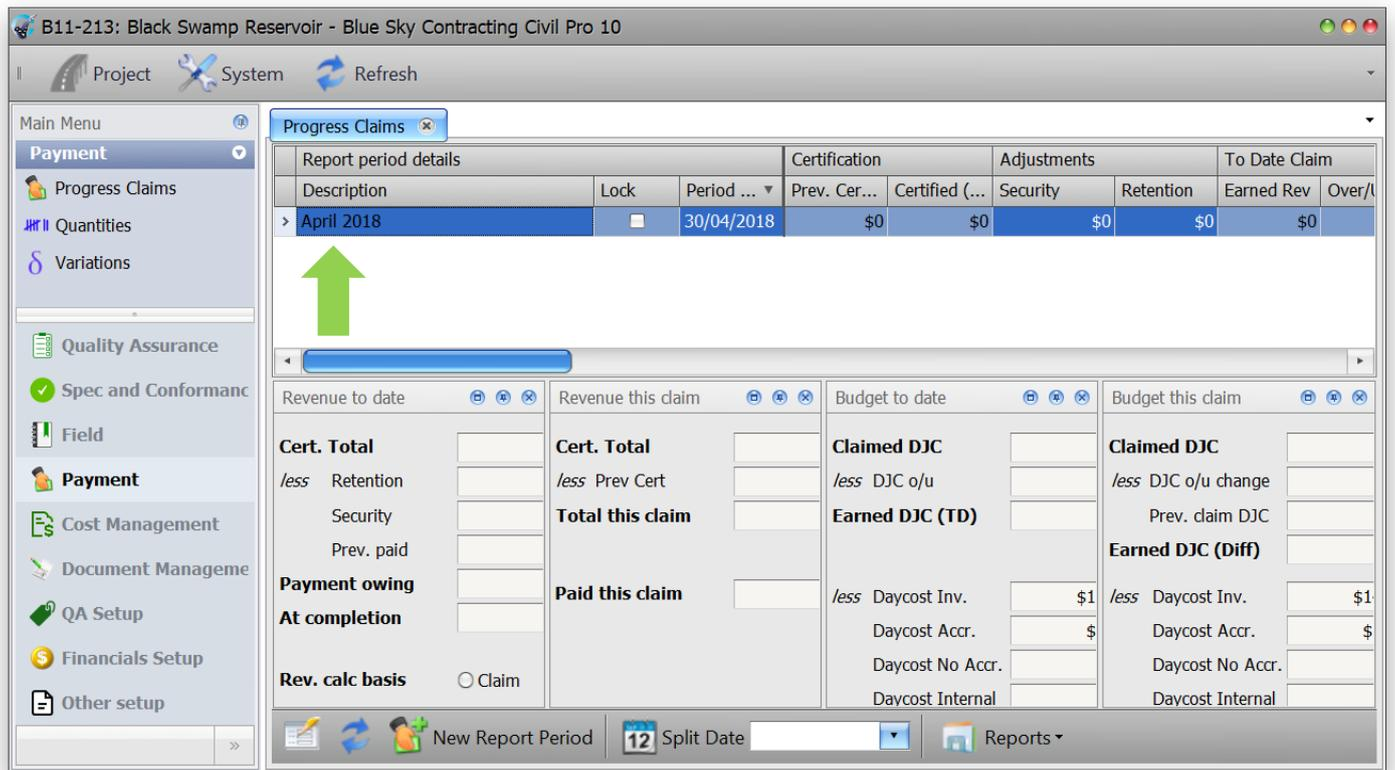
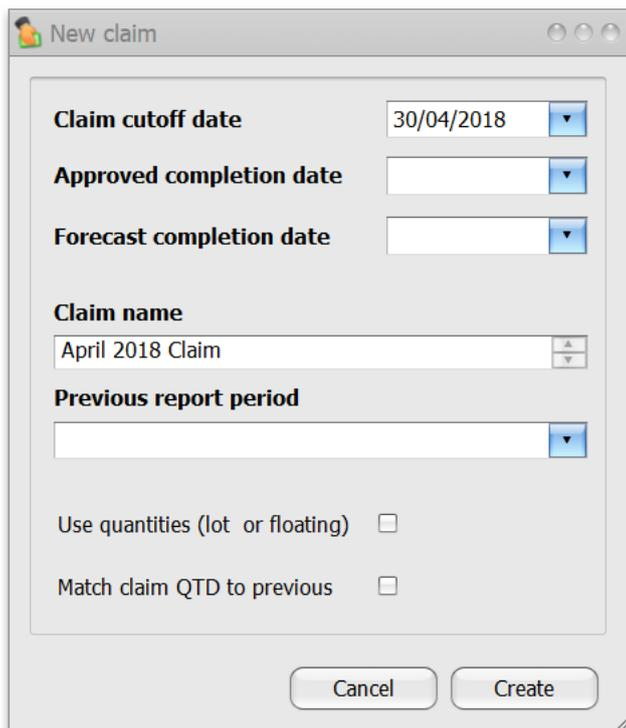

Figure 82 Reporting period within Progress Claim register
Figure 83 New Claim dialog
2. You will now see that our April reporting period appears in the Progress Claims register (Figure 82). This is because when we entered our daycosts we initialised this report period. Double click on this report period to show the new claim dialog (Figure 83).